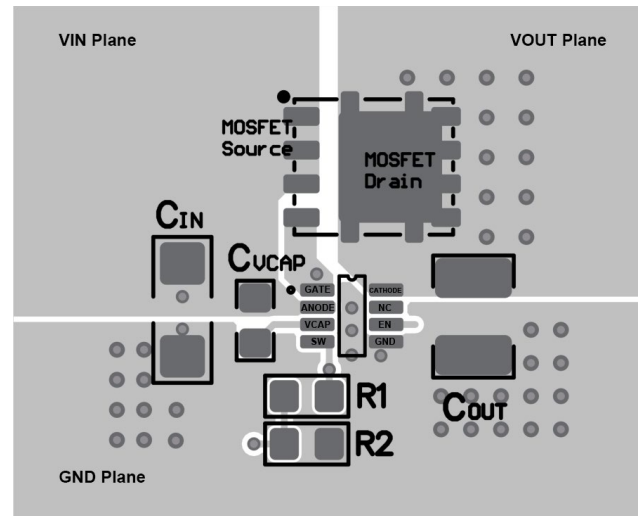

Figure 11. Layout Example
- Acceptable results can be obtained with different layout designs, but the layout in Figure 11 is a recommended approach for achieving good performance.